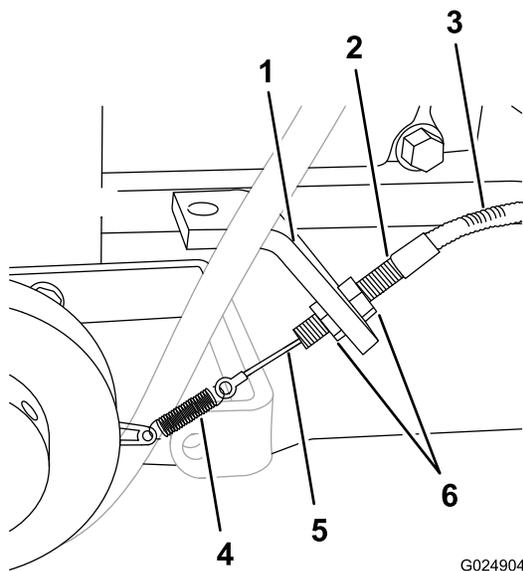

Figure 25
2. Loosen the 2 jam nuts that secure the barrel of the clutch cable to the clutch bracket, and rotate the nuts to either end of threads on the barrel (Figure 25).
3. Grasp the barrel with 1 hand and lift the cable housing lightly (Figure 25).
4. While holding tension on the cable, use your other hand, rotate the jam nuts until the nuts are flush to the clutch bracket (Figure 25).
5. Tighten the jam nuts to secure the barrel to the bracket (Figure 25).
- A. Loosen the 2 jam nuts slightly (Figure 25).
- B. Rotate the jam nuts to clockwise to increase cable tension or counterclockwise to decrease tension (Figure 25).
- C. Tighten the jam nuts to secure the barrel to the clutch bracket (Figure 25).